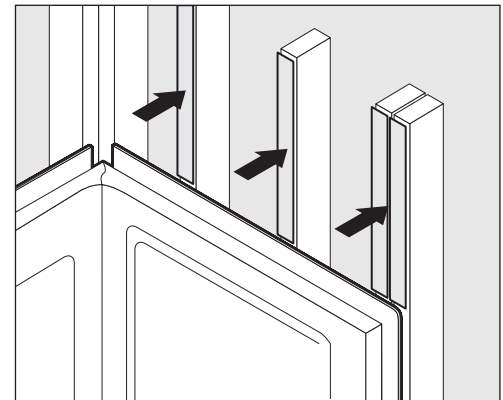

FIGURE 7. Shim studs.
- Using lattice strips or 1/4" luan, shim studs so that drywall will overlap nail flange smoothly. (If your wall extends past the shown alcove, it may be necessary to shim these studs.) (Fig. 7)